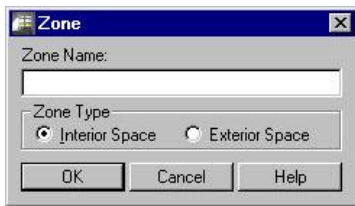

Figure 6. The Zone Properties dialog box.
- 35. The "Zone Properties" dialog box appears (Figure 6). Enter the name for this zone such as "Z1" and select Interior or Exterior space. Click OK.